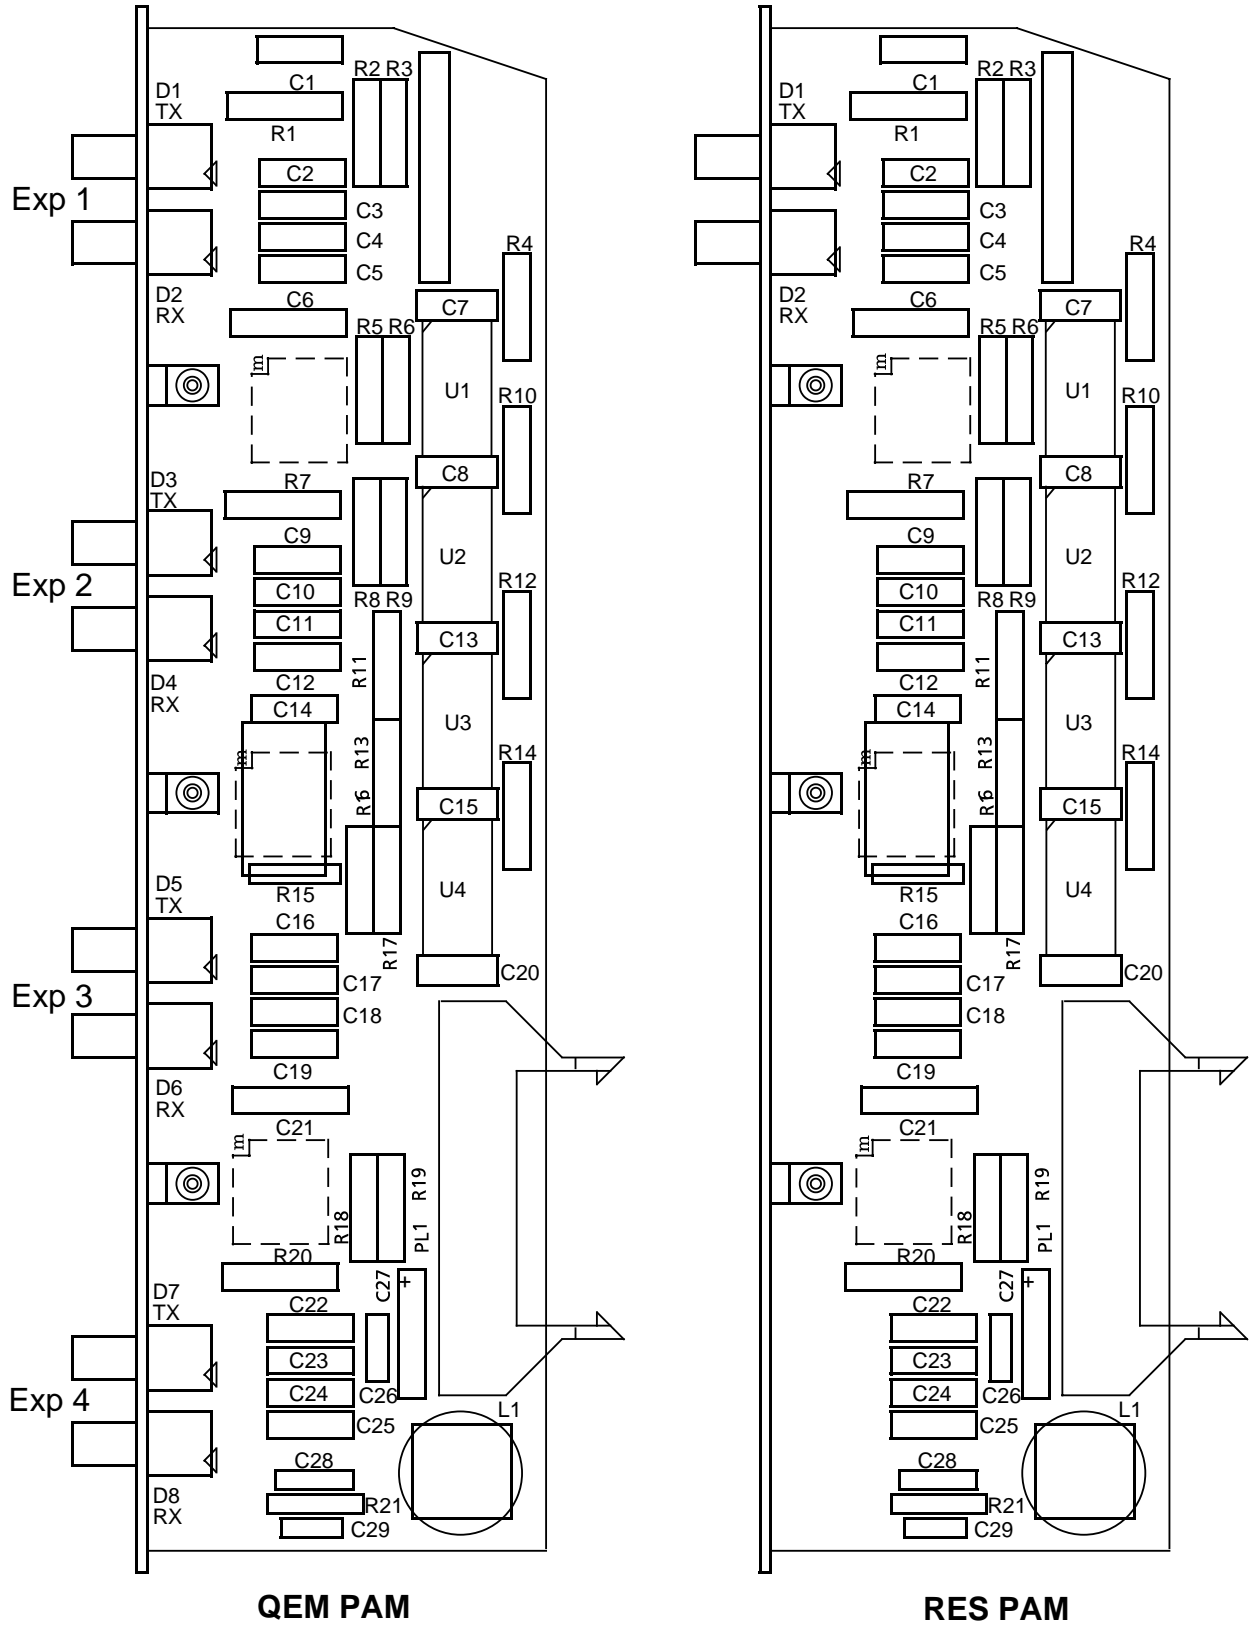

Figure 4-3 QEM and RES PAM Layouts
7. For each card to be installed, fit the PAM assembly supplied with the card to the corresponding position on the rear panel using the retaining screws provided. Refer to the PAMs already installed for guidance on orientation. The QEM and RES PAMs are illustrated (the correct way up) in Figure 4-3.
10. Connect the optical fibre cable between the QEM and RES PAM bayonet fixtures, ensuring that the transmitter at one end is connected to the receiver of the other, that is, a QEM TX connector goes to a RES RX connector, and vice versa (see Figure 4-3 for PAM connector layouts).